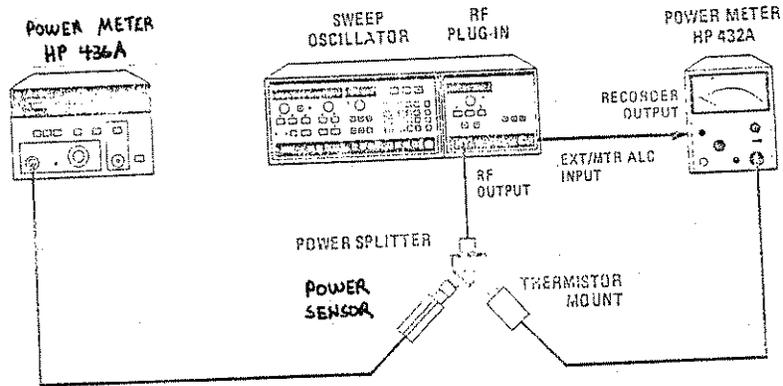

Figure 5-38 Power Meter Leveling Calibration
1. Connect equipment as shown in Figure 5-38. On the 8350A, press [INSTR PRESET CW] and select a frequency at midband. Set the RF power level to -2 dBm, as indicated on the 83592A POWER display. Allow the equipment to warm up for 1 hour.
4. Increase the 83592A power level until the 432A power meter reaches full scale deflection (83592A RF output equals approximately +6 dBm). Adjust A4R9 (PM) until the 436A Power Meter indication is equal to the 83592A POWER display minus the power splitter insertion loss noted in step 1.